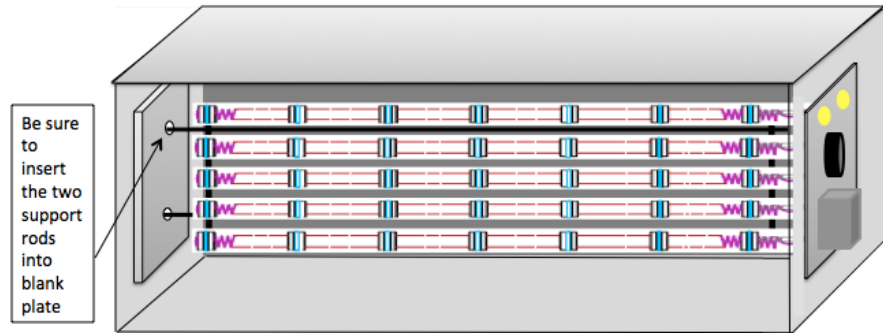

Figure 6
**Plenum System:** The plenum stand-a-lone cabinet is the same cabinet that is used with the ducted system except in this configuration the air is discharged out the bottom of the cabinet as shown in (figure 6).
3. Before installing cabinet, make sure to install the electric element (see figure 6) and blank plate in the cabinet using the 6 x 3/8" sheet metal screws to secure in place. *Be sure to install element so that electrical access is possible after the elbow is installed.*